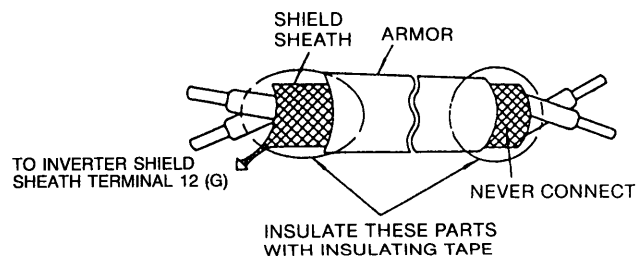

Fig. 4 Shielded Wire Termination
(2) Control circuit leads 9, 10, 18, 19, 20 (contact output) must be separated from leads 1 to 8, 11 to 17, 21, 22 and 25 to 27.
(3) Use twisted shielded or twisted-pair shielded wire for the control circuit line and connect the shield sheath to the inverter terminal 12 (G). See Fig. 4.